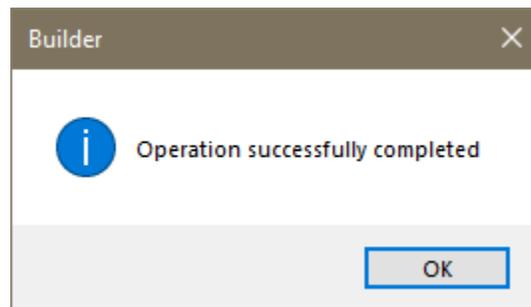

Figure 7-3
- When the check completes the program will prompt the user with the message in **FIGURE 7-3**.